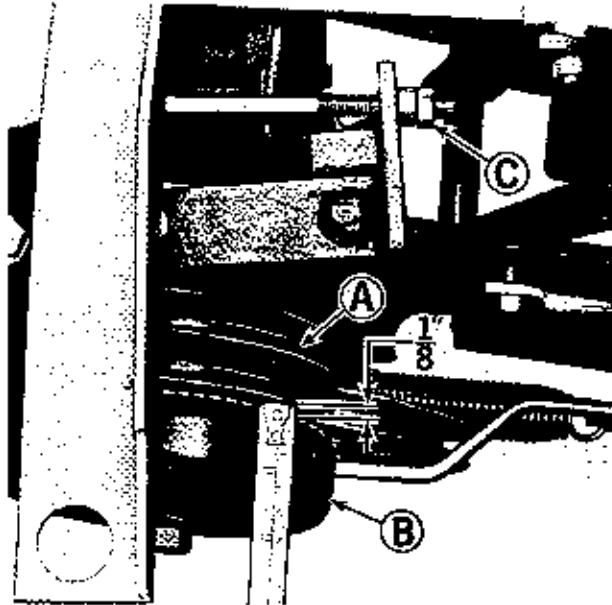

Figure 16. Power take off clutch.
See figure 16. The power take off clutch is properly adjusted when pulley (A) moves $1/8"$ when the power take off control lever is engaged and disengaged. If adjustment is required, proceed as follows: